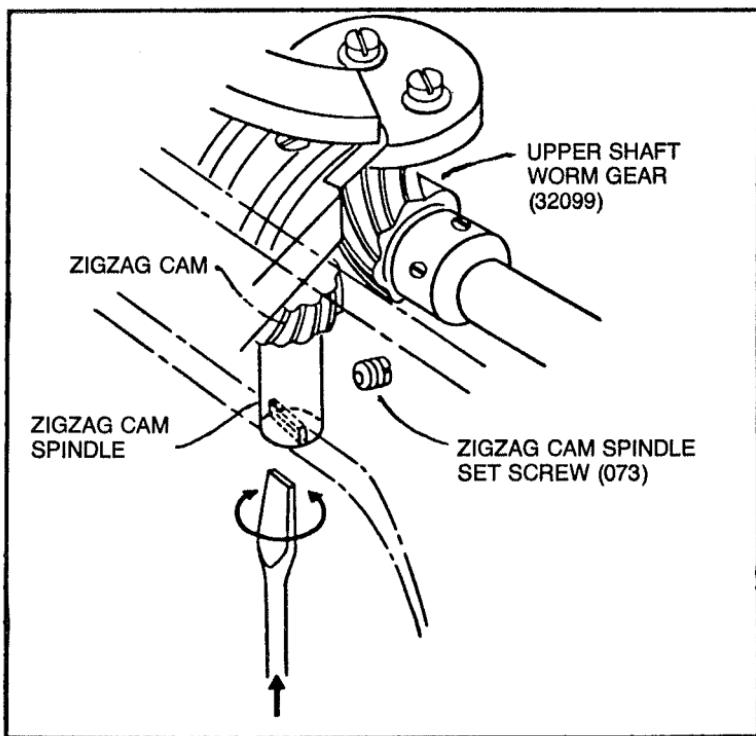

Fig. 6-43. Incorrect meshing of the cam shaft gear to the main shaft gear will cause noisy running.
Faulty meshing of the worm gear and main drive shaft gear on the Model 532 will cause noisy running. To make this adjustment, insert a screwdriver through the hole on the back of the machine arm (Fig. 6-43) to loosen the zig-zag spindle set screw (073).